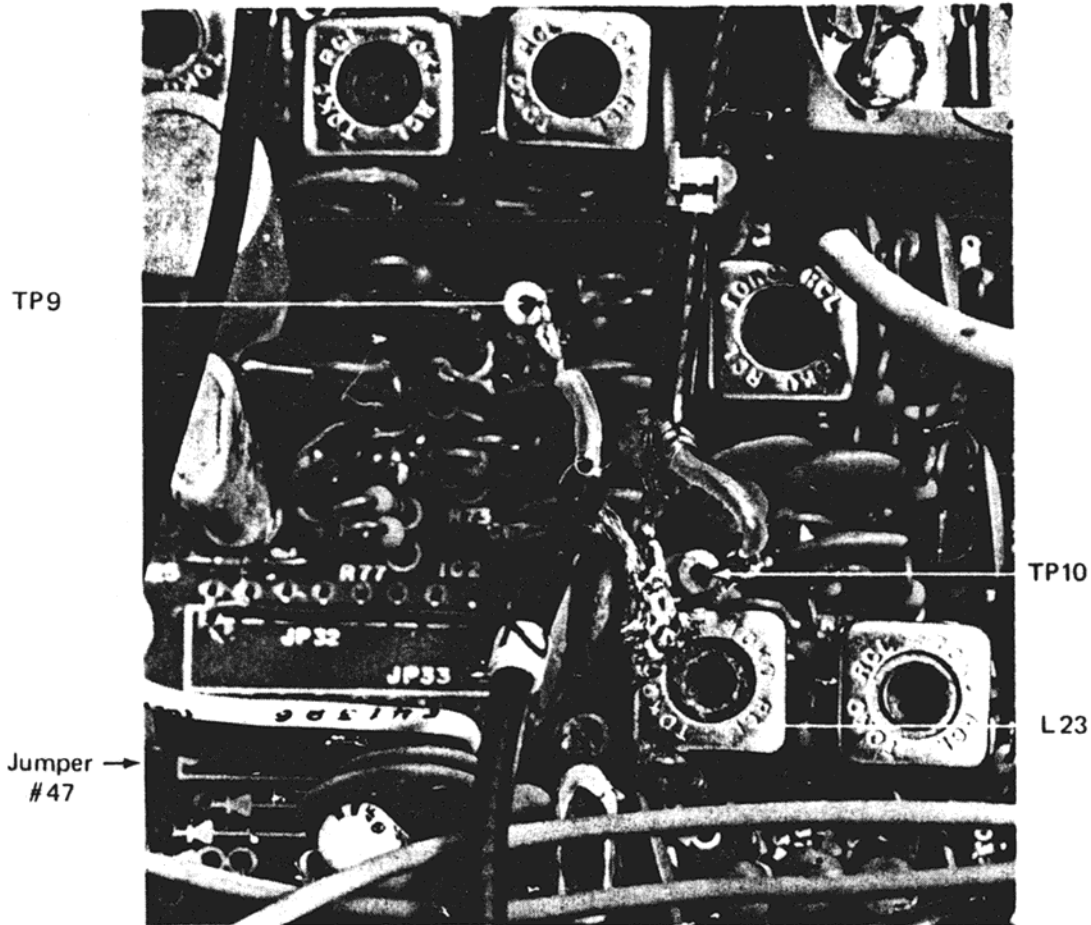

FIG. 2 — LOCATION OF TEST POINTS (MB8719 PLL)
5. Locate TP9 (see Fig. 2) and connect the center of coax #2 to this test point.
6. Locate TP10 (see Fig. 2) and connect the center of coax #1 to this test point.
7. Connect the ground shield of both coax cables to ground. (Example: Metal shield of L23 (see Fig. 2).
10. CUT THE JUMPER WIRE (see Fig. 2, labeled #47), LOCATED BEHIND THE CHANNEL SELECTOR TO COMPLY WITH FCC REGULATIONS.